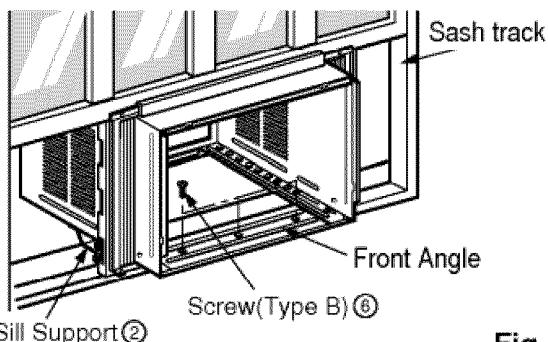

Fig. 5
- 6** The cabinet should be installed with a very slight tilt (about 1/2") downward toward the outside (See Fig. 5). Adjust the bolt and the nut of Sill Support ② for balancing the cabinet.
- 7** Attach the cabinet to the window stool by driving the screws ⑥ (Type B: Length 16mm (5/8 inch) and below.) through the front angle into window stool.